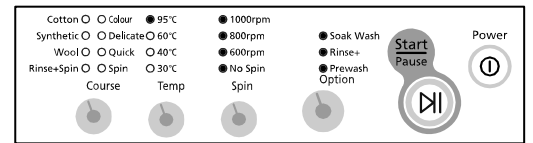

fig. 8
- Then the display shows fig. 8 indicating a pressure s/w error indicator.